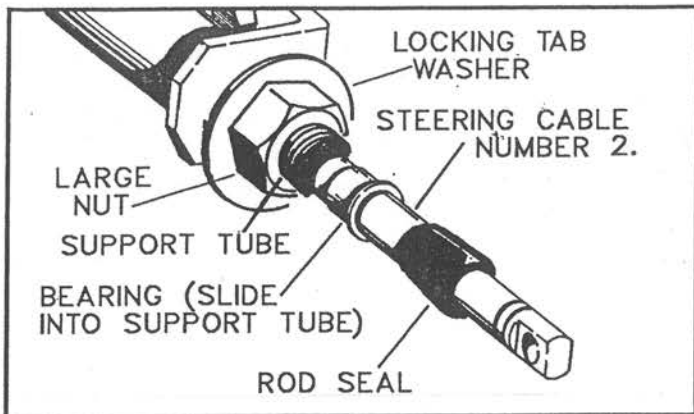

FIGURE 7 SUPPORT TUBE INSTALLATION
I. Insert the *Nylon Sleeve* into the *Steering Tube* and slide the *Rod Seal* onto the end of the *Support Tube*. Refer to **Figure 7**.